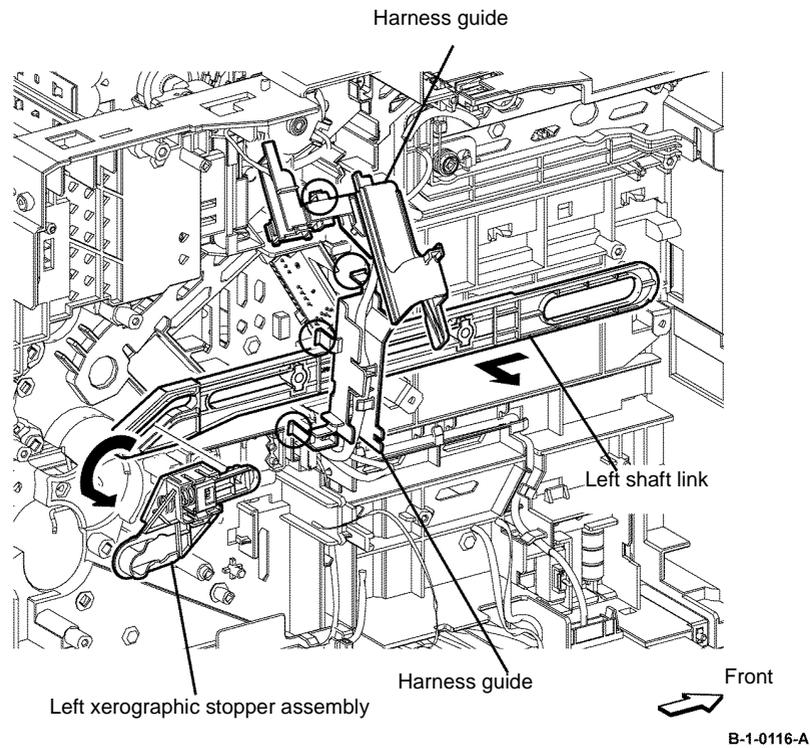

Figure 4 Left link shaft removal
19. Remove the left link shaft by bending it outside from inside the printer, Figure 4.